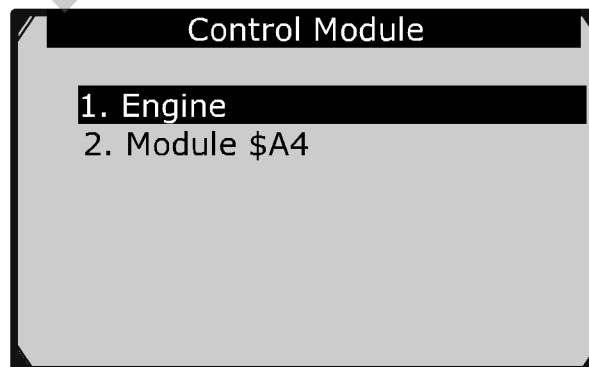

Figure 6.2
- If more than one module is detected, you will be prompted to select a module before testing. (Figure 6.2 )